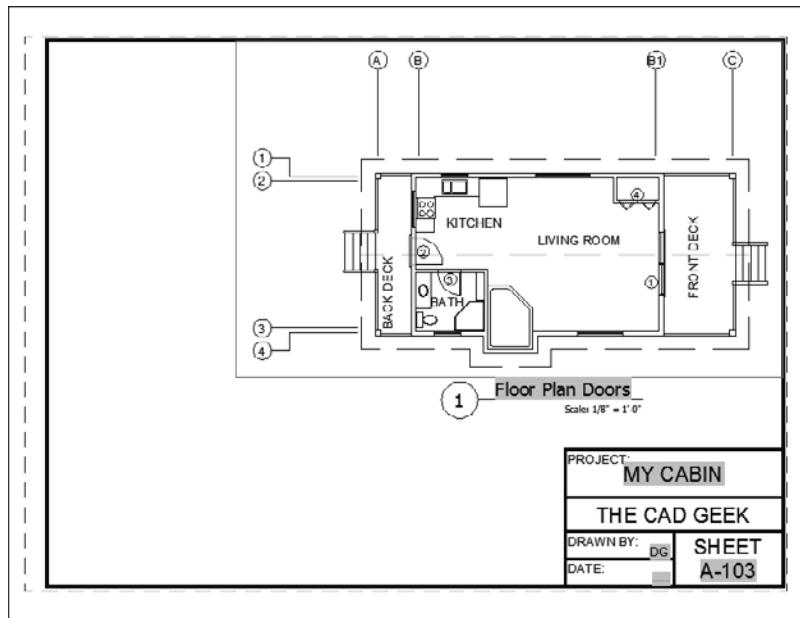

FIGURE 14.70 The A-103 Floor Plan Doors layout after the layers are frozen and the viewport is adjusted
5. Select the viewport and, using the grips, adjust it so that it fits more closely to the floor plan. Your drawing should look similar to Figure 14.70.